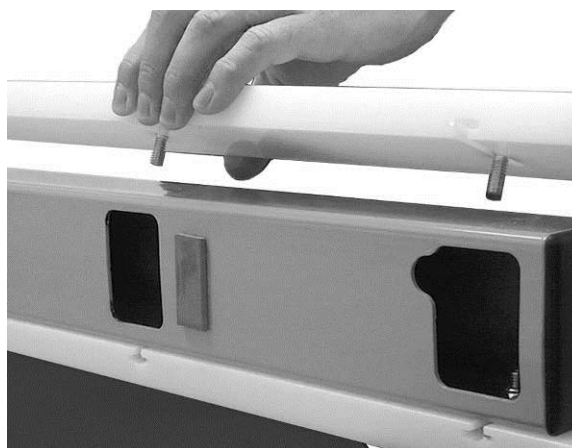

Figure 21
3. Turn the fence on its side and pull the side plate from the main frame (Figure 21).
4. Replacement side plates come with fasteners already attached. With the fence still on its side, align the new side plate so that the attached bolts line up with the holes on the main frame. See Figure 21. Mount the new side plate to the main frame.